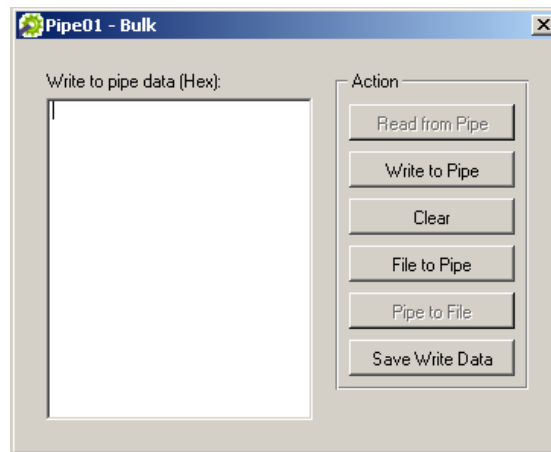

Figure 5.8: Write to Pipe
- v. For an output pipe (moves data from host to device), click **Write to Pipe**. A new dialog box will appear (see Figure 5.8), asking you to enter the data to write. The DriverWizard log will contain the result of the operation.